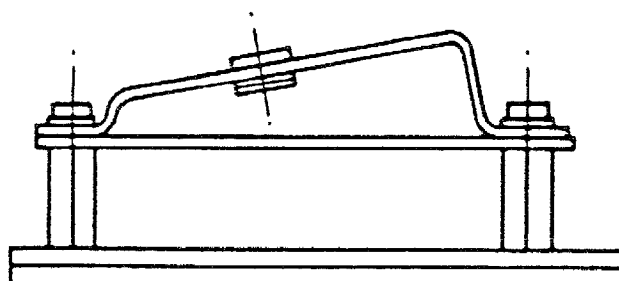

Fig 2.17 PCB 1 Replacement
2. Refit front panel keyboard to the front moulding ensuring that the brackets are correctly mounted as shown in Fig 2.17.